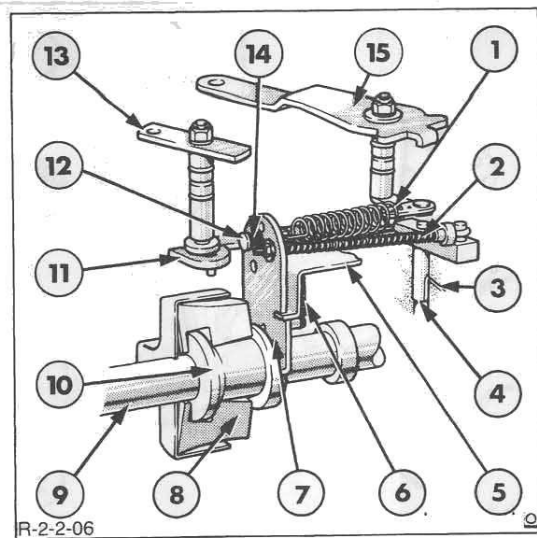

Figure 35
19. Re-assemble the governor linkage as follows; referring to Figure 35 for component identification.